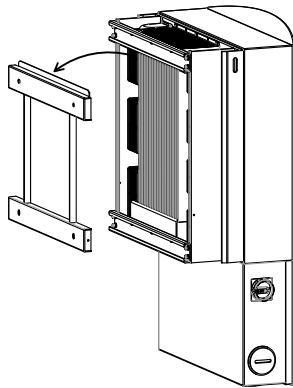

Figure 3.6 Lift and attach the inverter to the mounting bracket
- 4). Lift the inverter and align the slot on the back of the inverter with the lip on the mounting bracket. Slowly lower the inverter onto the bracket until the inverter is secured on the bracket (see Figure 3.6).